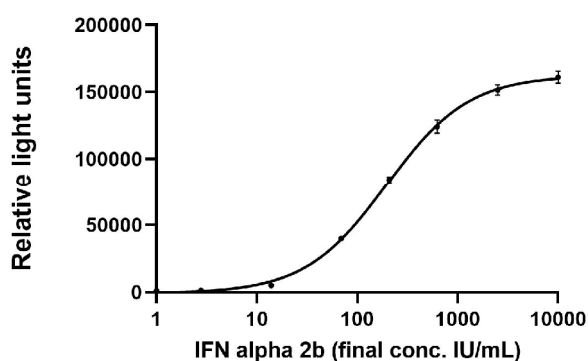

Figure 1. Example of IFN alpha 2b calibration curve.
The *iLite*[®] IFNI FAST Assay Ready Cells are engineered cells, optimized to express Firefly luciferase (FL) under the control of a type I IFN responsive promoter. *iLite*[®] IFNI FAST Assay Ready Cells also contain the Renilla Luciferase (RL) reporter gene, under the control of a constitutive promoter. The constitutive expression of RL allows normalization of type I IFN induced FL activity, and renders assay results independent of variations in cell number or serum matrix effects. The luciferase signal can be measured in a luminometer following addition and incubation of luciferase substrate. The Firefly luciferase signal is proportional to the concentration of functional type I IFN in a sample, in this application note exemplified by IFN alpha 2b (Fig.1).